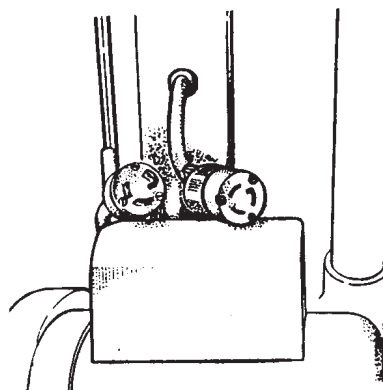

Figure 7
- 5 Connect the handle pigtail to the motor cord. Align ground pin, insert and twist. (Figure 7)